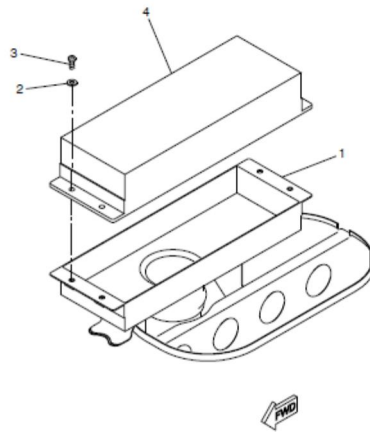

Figure 5: Display Cooling Air-Filter
1. Do a general visual inspection (GVI) on the display cooling air-filter. If found clogged/dirty, replace the filter per AMM task 21-24-10-000/400-801. Refer to figure 5. Re-measure the noise level in the cockpit. If there was no reduction in the noise level then go to step 2, below.